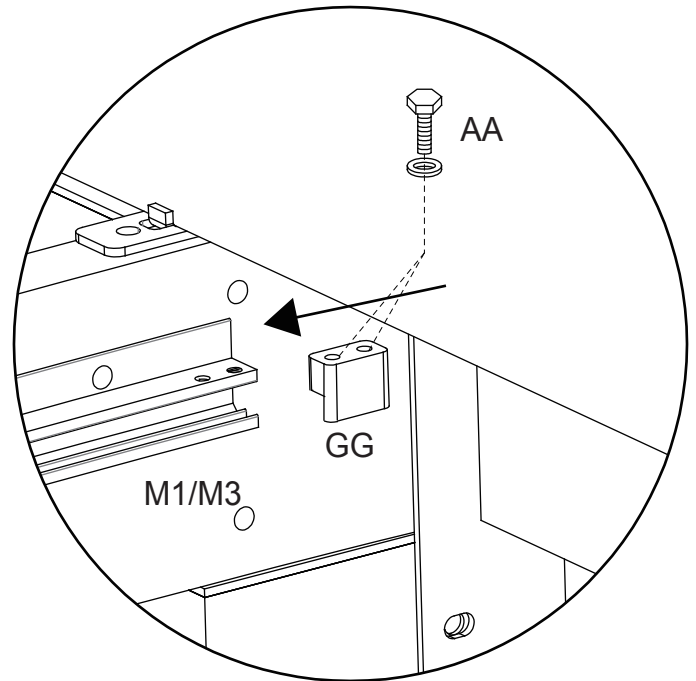

Fig11.9
11.5. Insert the Pipe Plugs (GG) into the two ends of the track, and lock them with bolts (AA), See Fig11.9.